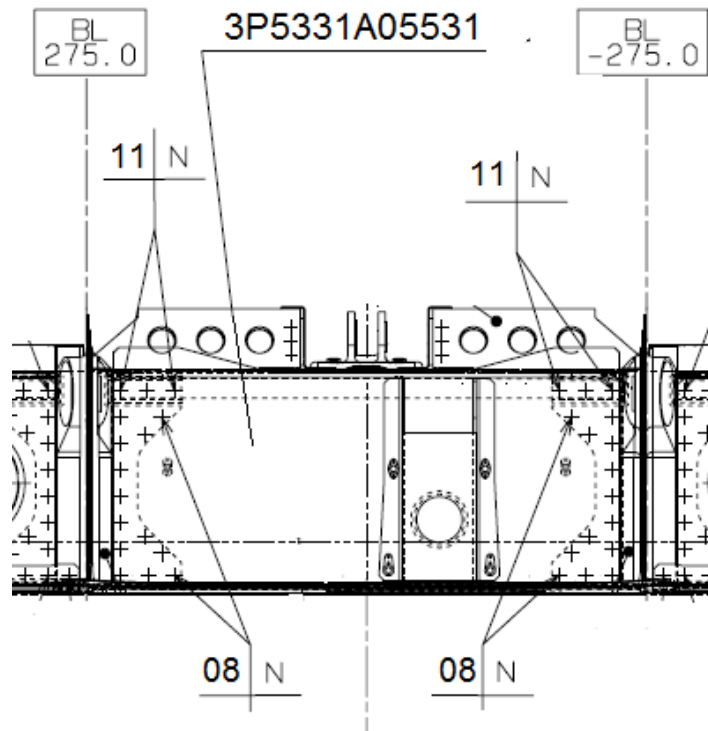

Figure 3 - Middle Frame Assy STA2105 3P5331A05531
4. Remove Middle Frame Assy STA2105 p/n 3P5331A05531 as per figure 3.